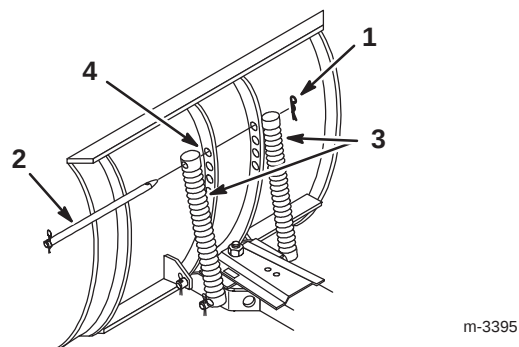

Figure 21
You can mount the blade trip springs in 4 positions. The top hole provides the greatest scraping pressure and the bottom hole provides the least scraping pressure (Fig. 21).
1. Remove the hairpin cotter and slide the rod from the blade and springs (Fig. 21).
- Slide the rod through the springs and the new hole position in the blade (Fig. 21).